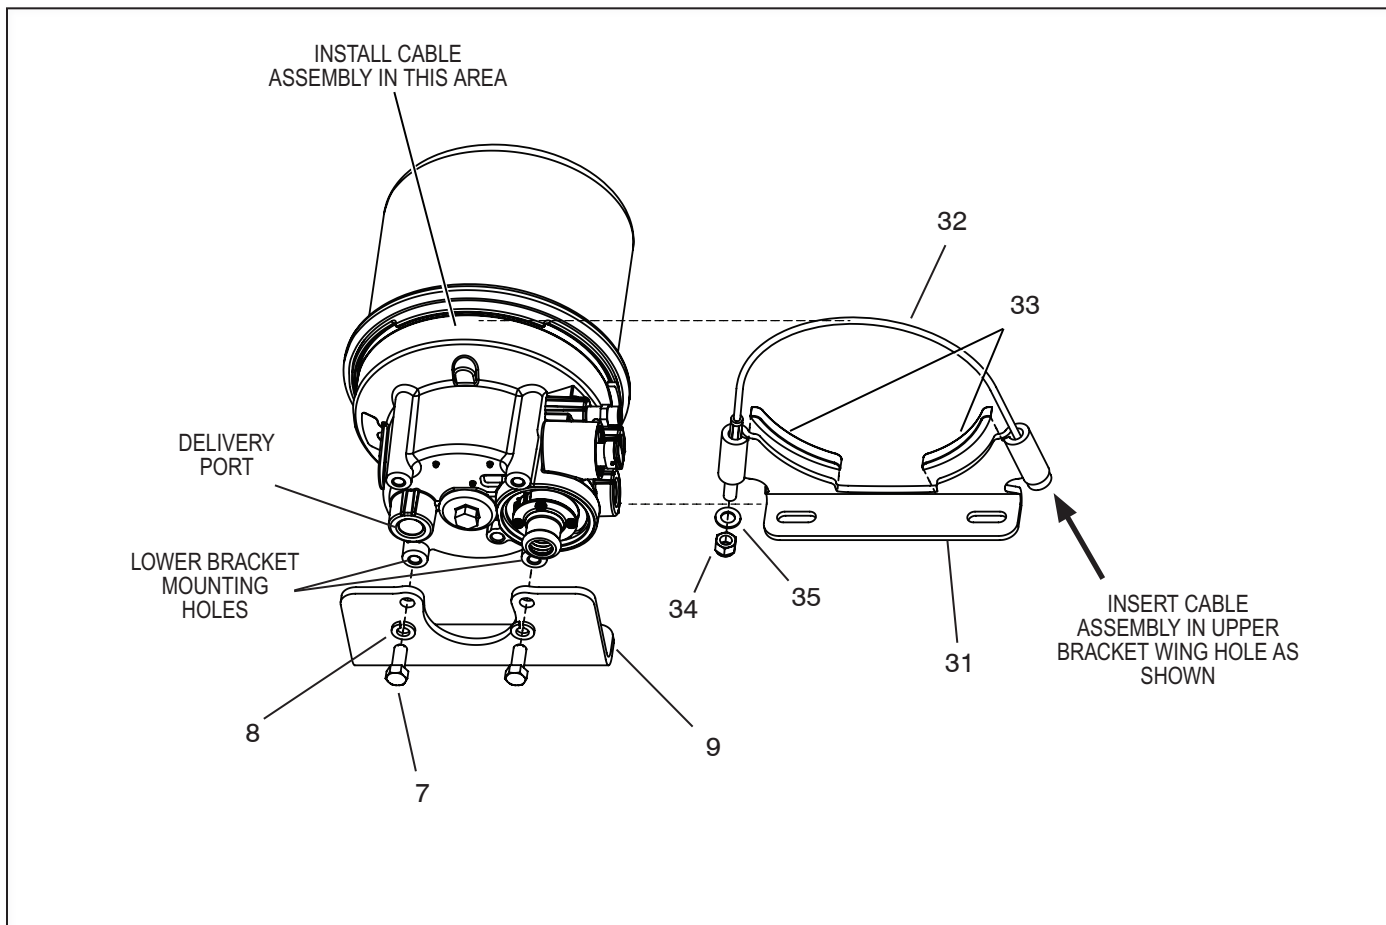

FIGURE 10 - BENDIX® AD-IP® AIR DRYER CABLE BRACKET INSTALLATION
Reference Figure 10
There are two types of upper mounting brackets; saddle type (shown in Figure 8), and cable type (shown in Figure 10). Refer to the appropriate figure for the type of air dryer being serviced.
2. **Saddle Bracket:** Assemble the mounting strap (4) and saddle bracket (5) as illustrated, by utilizing the 5/16" cap screw (1) and sleeve nut (3) provided. Place the upper bracket strap in the end cover channel provided for it, then install the saddle bracket and secure the strap to the saddle bracket using the cap screw (1) and sleeve nut (3) provided. Install, but do not tighten the cap screw at this time. Orient the strap and saddle bracket (5) so that it is in a flat plane with the lower bracket. Torque the 5/16" nut to 60-100 in-lbs to tighten strap onto the shell.
Cable Bracket: Press the isolators (33) onto the upper bracket (31) as shown in Figure 10. Place the air dryer onto the upper bracket (31). Insert the cable assembly (32) through the wing hole of the upper bracket (31), around the air dryer and then again through the bracket (31) on the opposite wing hole. Note: some applications may require the button end of the cable be placed on the opposite wing.